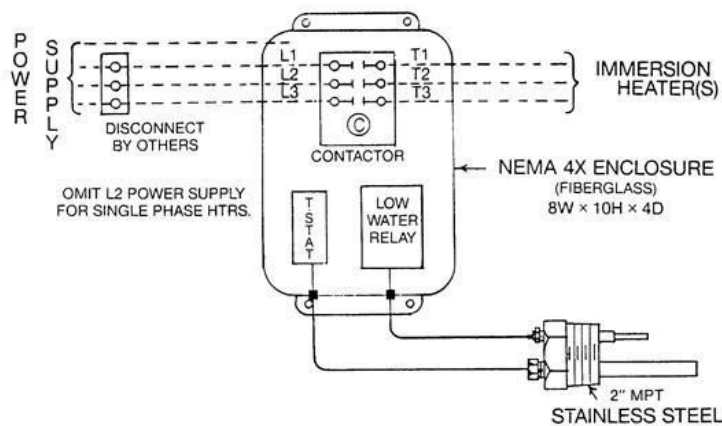

Figure A-52: Basin Heater Control panel diagram
- Using suitable wire connect heater to panel on “T” terminals, located on right side of contactor in panel (See Figure A-52)
- Using suitable wire from an overload protected disconnect device, connect to the “L” terminals of the panel contactor, located on the left side of contactor in panel (see Figure A-52)